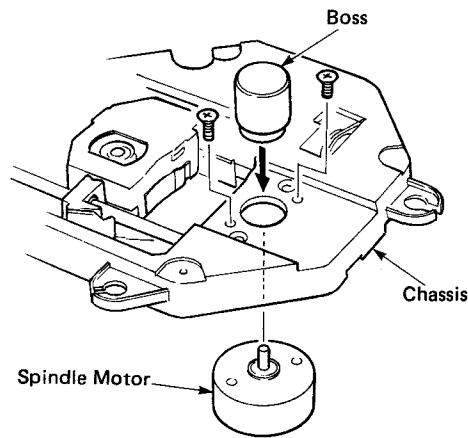

Fig. 6
a. Put the boss into the hole in the chassis as shown in Fig. 6 and bring the spindle motor from underside of the chassis so that the spindle fits in the hole in the boss. After making sure that the spindle motor is positioned properly, tighten the screws.